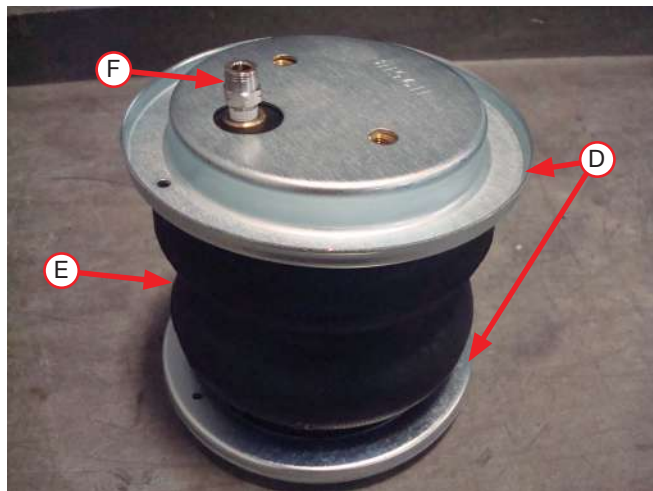

Fig. 7
1. Place the roll plates (D) on the air springs (E) (Fig. 7). Install the straight air fittings (F) onto the air springs. Tighten the air fittings finger tight plus 1 1/2 turns.